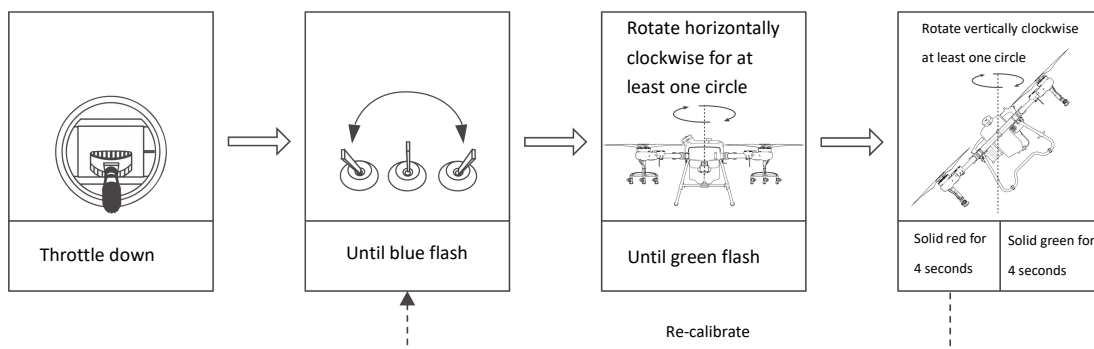

Figure 1-37 Compass Calibration
Step 5: Calibration fails if the status indicator shows solid red for 4s. Repeat Step 2-4 until the operation succeeds. See Figure 1-37.